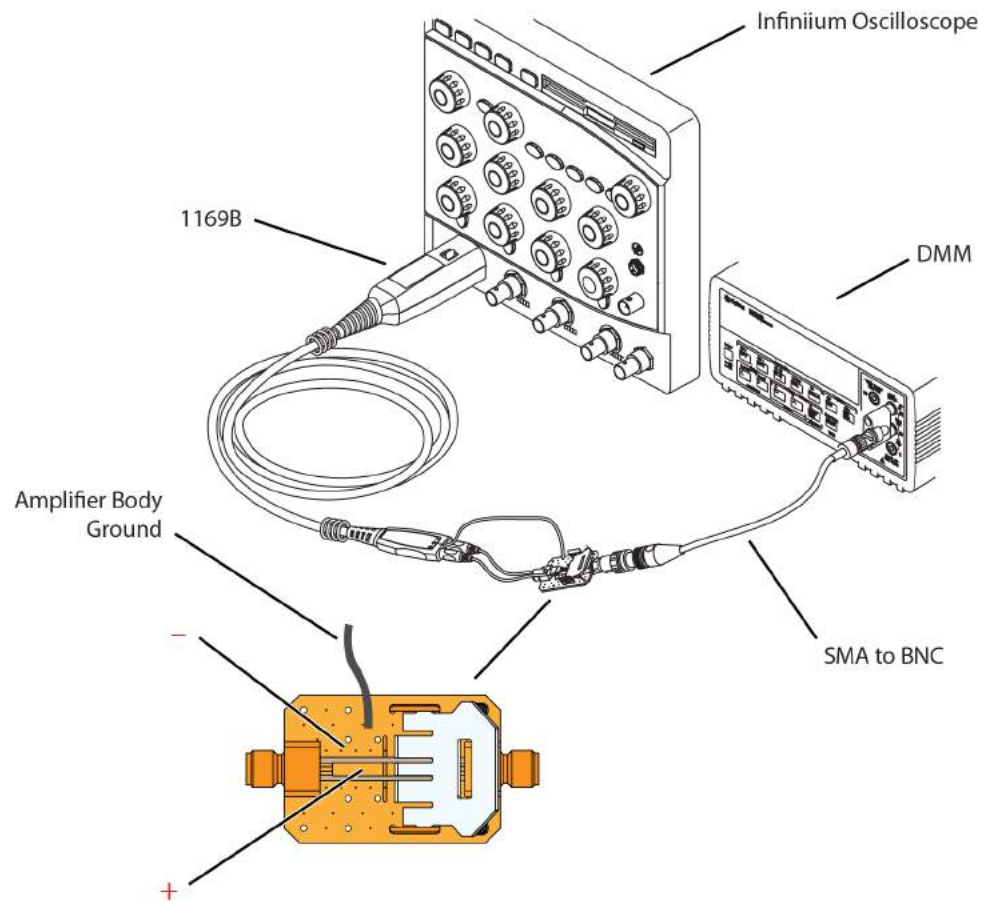

Figure 215 Probing Locations on PV Test Board for Differential Test
- 1 Using the PV/DS test board, connect the positive (+) probe tip to the 34401A DMM as shown in **Figure 215** on page 217. Connect the probe's amplifier body ground to the PV/DS test board ground.